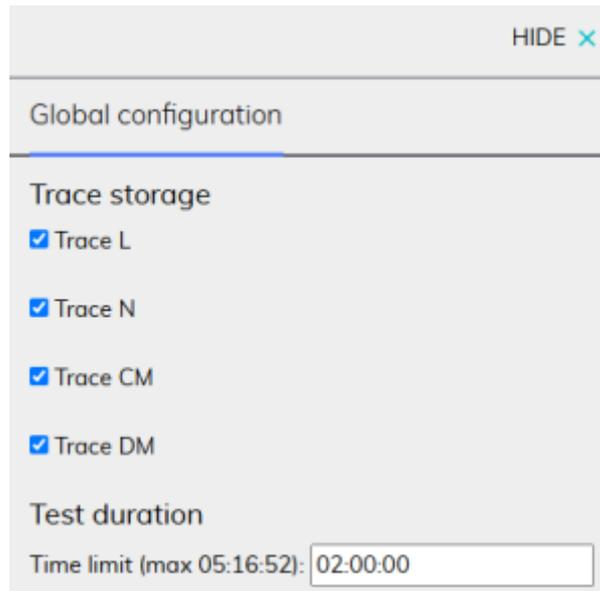

Figure 23. Trace Storage and Test Duration.
Trace storage allows users to select which traces to store: Line (L), Neutral (N), Common Mode (CM), and/or Differential Mode (DM), as shown in Figure 23.